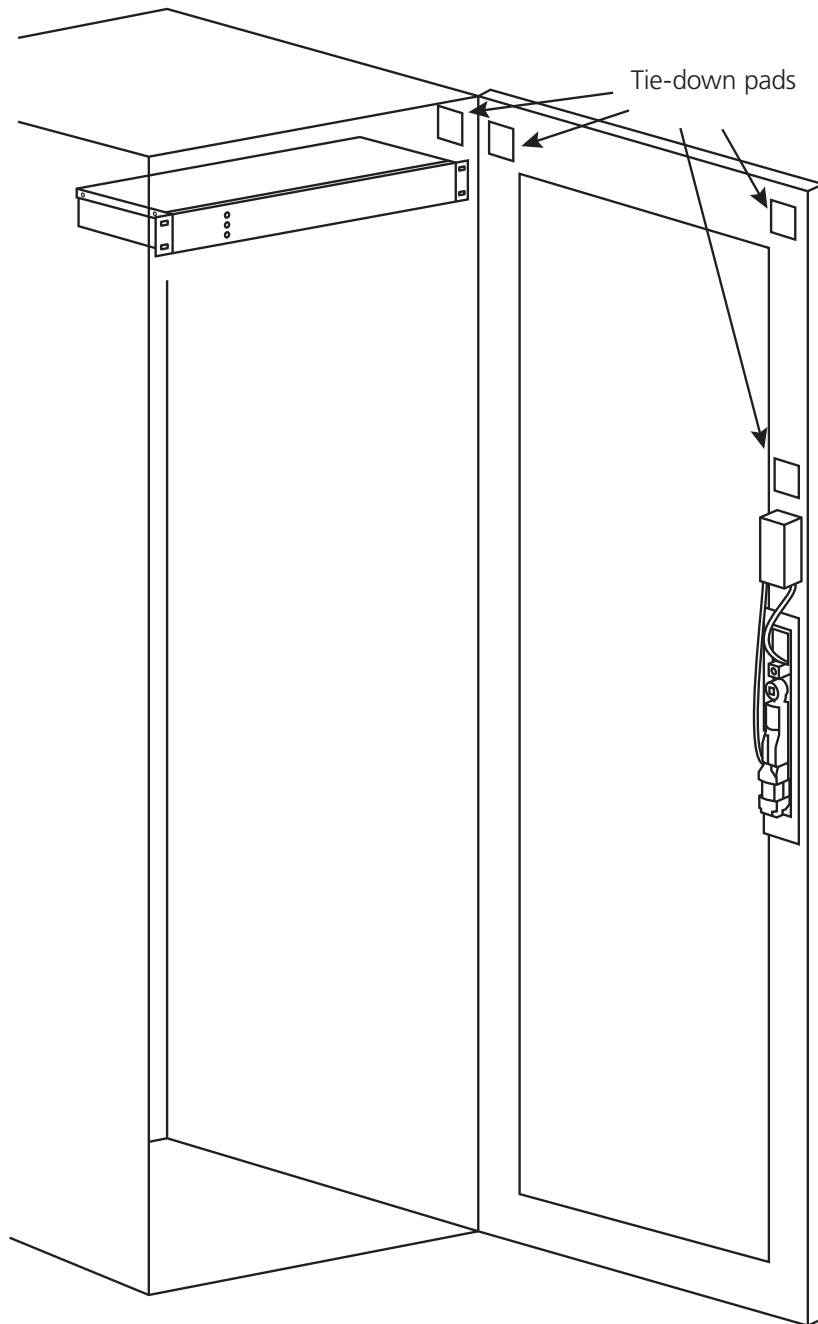
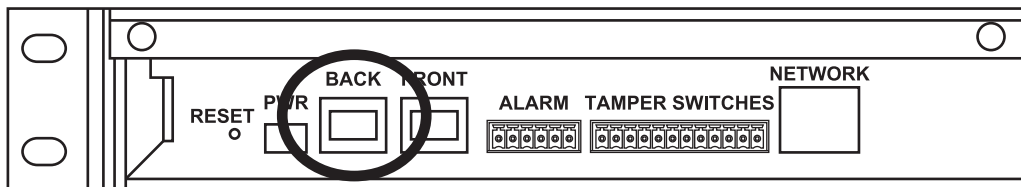
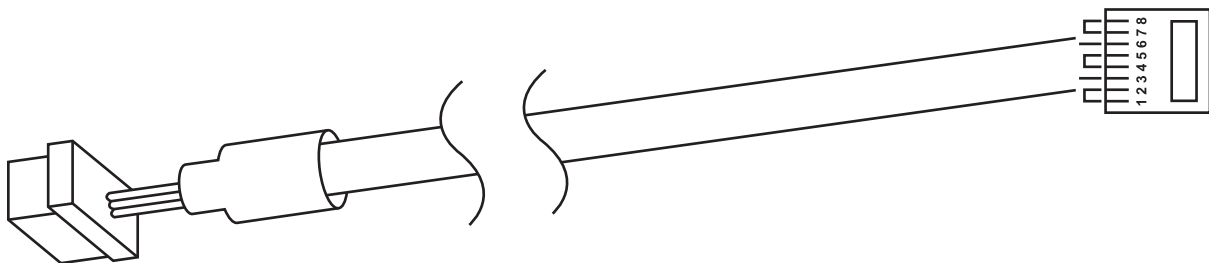

Figure 9. Mounting the tie-down pads to the door and cabinet.
Figure 22. Back door output.
Figure 23. Attaching cable to lock.
- Remove the protective cover from each tie-down pad and position it as shown in Figure 9.
- Additional locks can be purchased from Black Box (part number SAC550CABL). The lock is supplied with a 10" (25.4 cm) cable with a RJ-45 connector on one end (this connects as shown in Figure 22), and a lock connector on the other end. The cable is shown in Figure 23.
- Mount the lock as shown in Figure 9, then attach the supplied cable (see Figure 23).